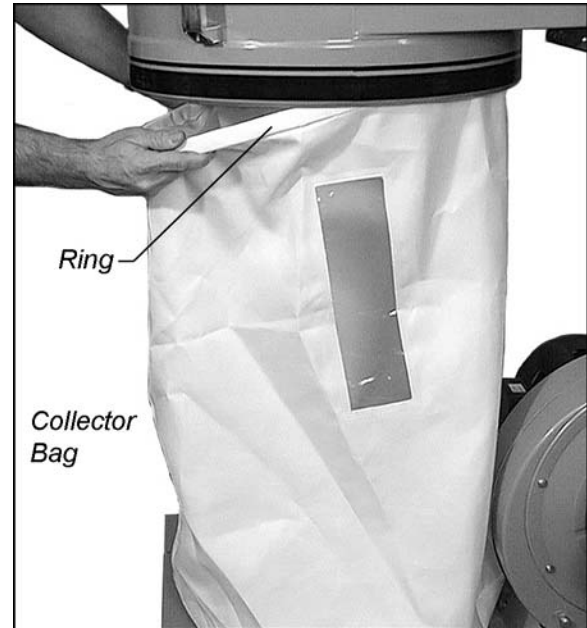

Figure 5
4. Insert the *ring* (Figure 5) of the *collector bag* into the bottom of the housing at an angle. Pull down on the collector bag to make sure it “seats” on the inner lip of the housing.